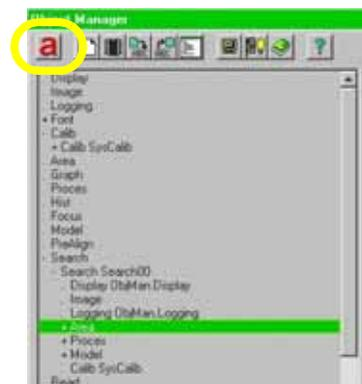

Figure 3-48—Click **a** to close the Object Manager
- 6e) On the Object Manager window, click **a** to close. See Figure 3-48.